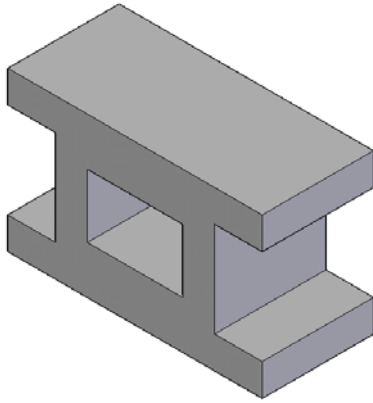
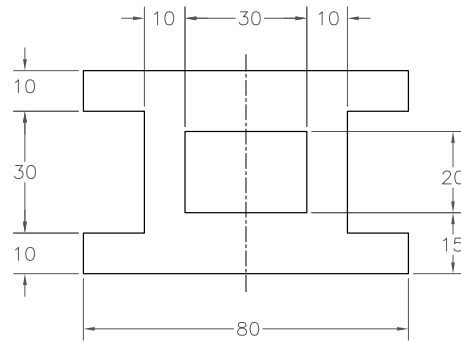

Figure 3-32 Model for Tutorial 1
Figure 3-33 Profile to be drawn for Tutorial 1
In this tutorial, you will draw the profile of the model shown in Figure 3-32. The profile shown in Figure 3-33 should be symmetric about the origin. You will not use the edit boxes available in the command bar to enter the values of the entities. Instead, you will use the parametric dimensions to complete the sketch. (Expected time: 30 min)
- Click in the graphics window to create a rectangle. Refer to Figure 3-33 for the location of the rectangle.